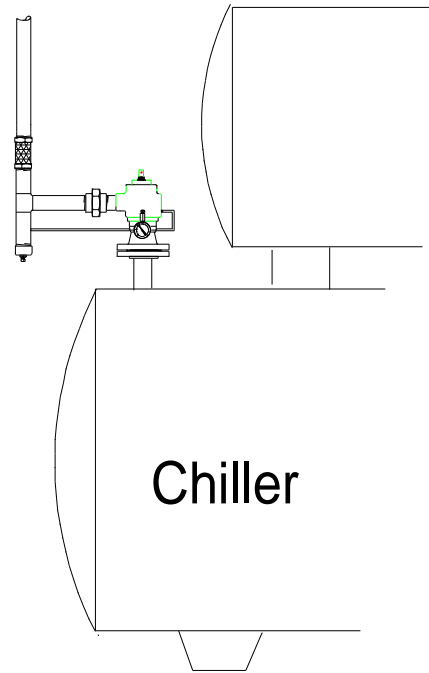

Figure 1
2. The **RuptureSeal™** "valve" can be mounted in either a vertical or horizontal position (see **Figure 1 - Typical Installation**). The NRS-3 can not be mounted upside down.